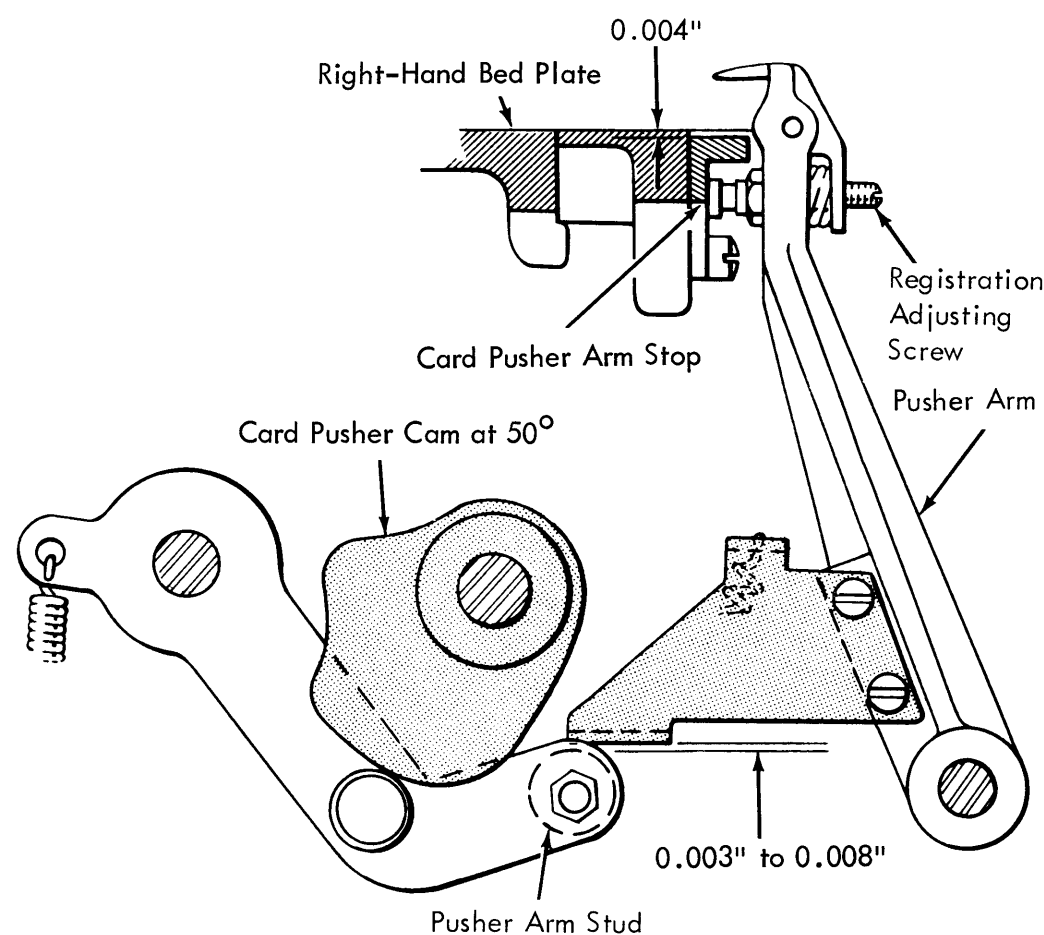

Figure 4-11. Detail Card Registration
1. Position card pusher arm stop to 0.004 inch below upper edge of right bed plate (Figure 4-11).